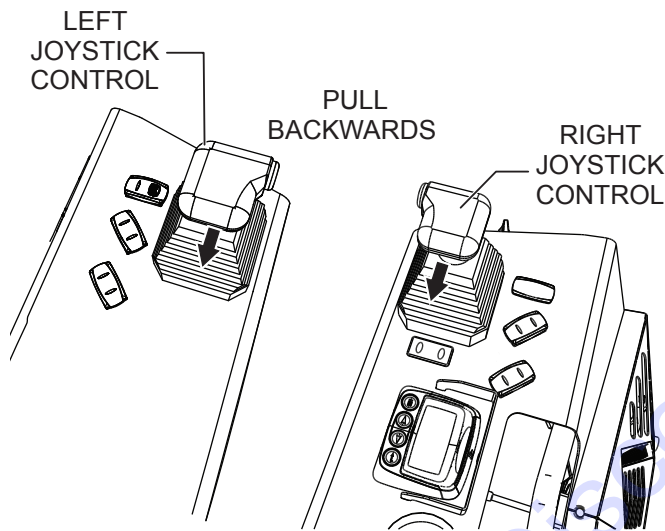

Figure 26. Joystick Control Reverse Direction
- Pull both the left and right joysticks backward (Figure 26) and repeat steps 3 through 6 while substituting the word 'reverse' for 'forward'.